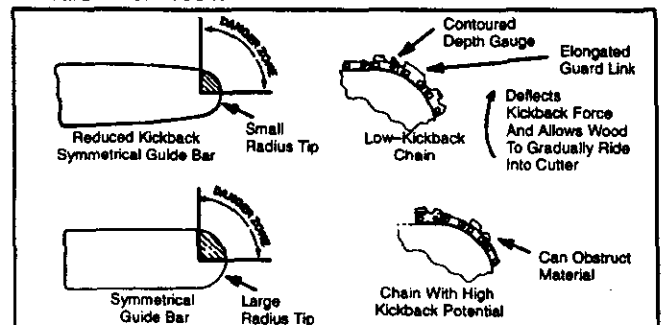

Figure 5
- Reduced-Kickback Guide Bar, designed with a small radius tip which reduces the size of the kickback danger zone on the guide bar tip. Figure 5. A Reduced-Kickback Guide Bar is one which has been demonstrated to significantly reduce the number and seriousness of kickbacks when tested in accordance with ANSI B175.1-1991
- Low-Kickback Chain, designed with a contoured depth gauge and guard link which deflect kickback force and allow wood to gradually ride into the cutter. Figure 5. Low-Kickback Chain is chain which has met kickback performance requirements of ANSI B175.1-1991 when tested on a representative